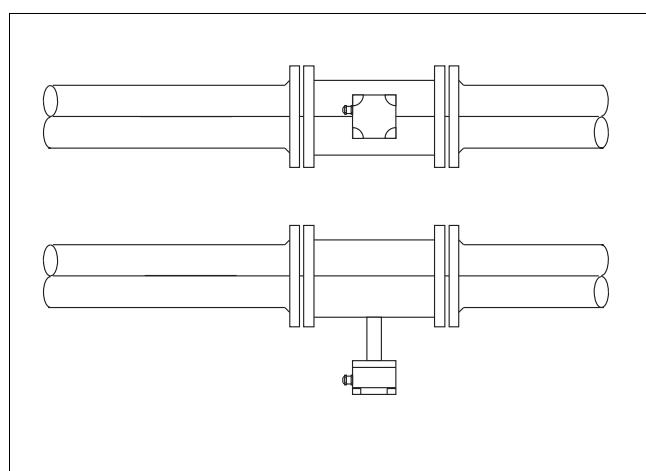

Fig. 14 High temperature installation
- For horizontal installation and fluid temperatures > 150 °C the arrangement as shown in Fig. 14 is recommended.